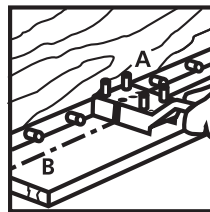

Figure 29
9. Match the centre marks on both sides of the jig with the centre line on board B. Line up the end of the boards using a square. Move board A forward or back until the edge of the board is flush with the jig. See Figure 29.